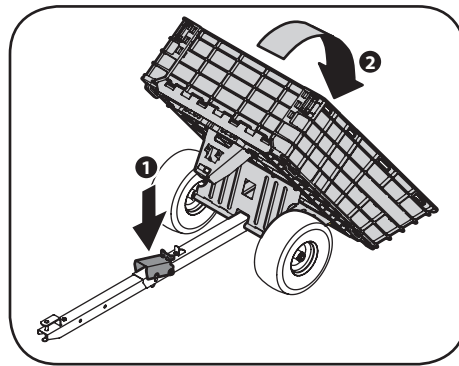

Figure 5-2
1. The contents of the hauler can be dumped by pressing down on the dump pedal on the tongue. See Figure 5-2.